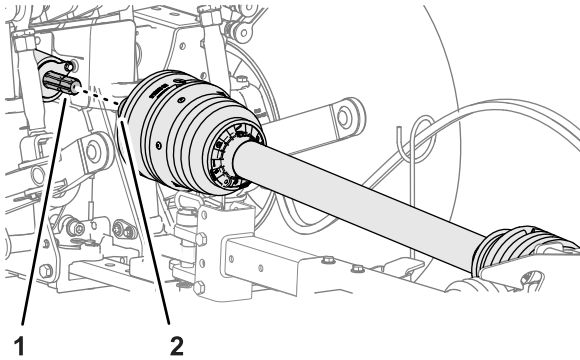

Figure 30
1. Align the quick-connect coupling of the PTO driveshaft with the output shaft of the PTO (Figure 30).